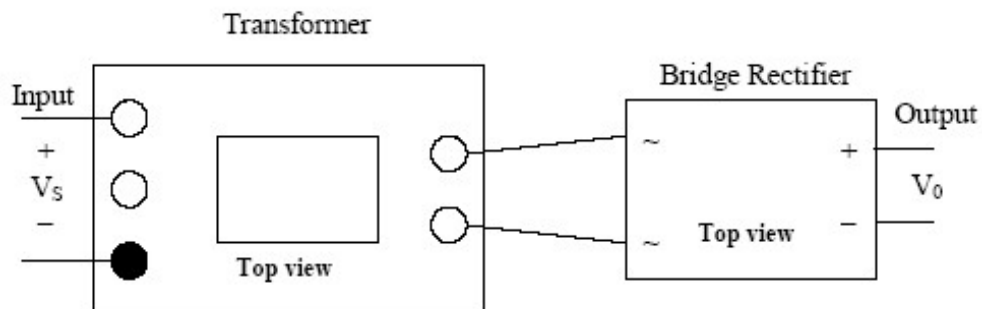

Fig. 3.8 Diode full-wave rectifier
1. Connect the diode bridge rectifier (DB101) and the transformer as shown in Fig. 3.8. Use the transformer with the wooden base.
*Note: The input to the bridge rectifier must be connected as shown in Fig. 3.8.*
6. Draw a circuit diagram to represent DB101 chip, as shown in Fig. 3.8. Make sure that you label the input and output voltage in your drawing.